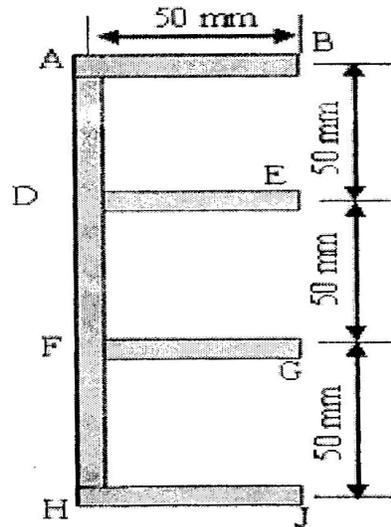

Figure 6
20. Determine the location of the shear center of a thin-walled beam of uniform thickness having the cross section shown in Figure 6.